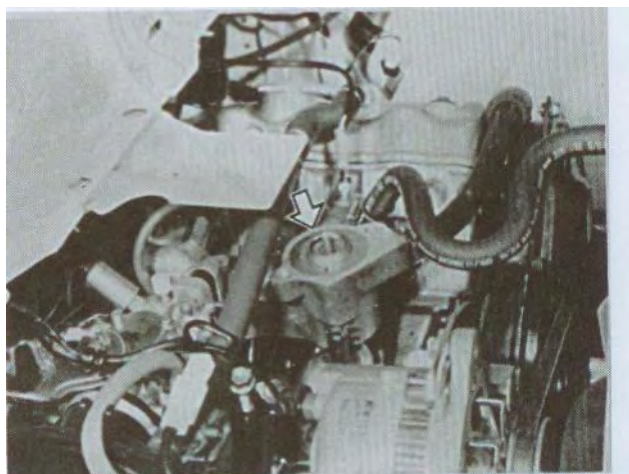

FIG.6-13 (see fig.7-14 of service manual for HFJ6351B)
- (1) Drain cooling system.
- (2) Remove gearlever and cable from transmission and control shaft referring to correlative section.
- (3) Remove central box.
- (4) Remove thermostat cap from intake manifold.
- (5) Remove thermostat. (FIG.6-13)